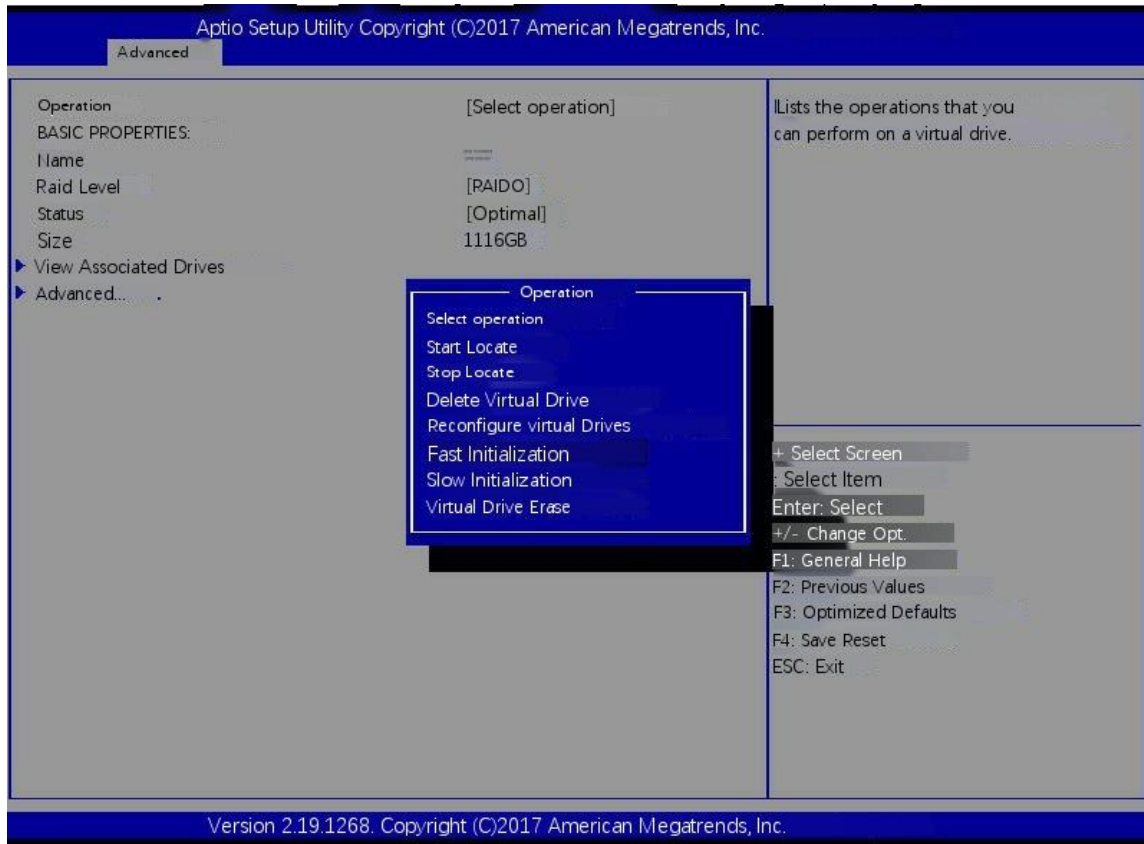

Figure 6-43
- c) Enter the interface shown in figure 6-43, select operation, press enter, and then select fast / slow initialization in the pop-up dialog, and press enter.